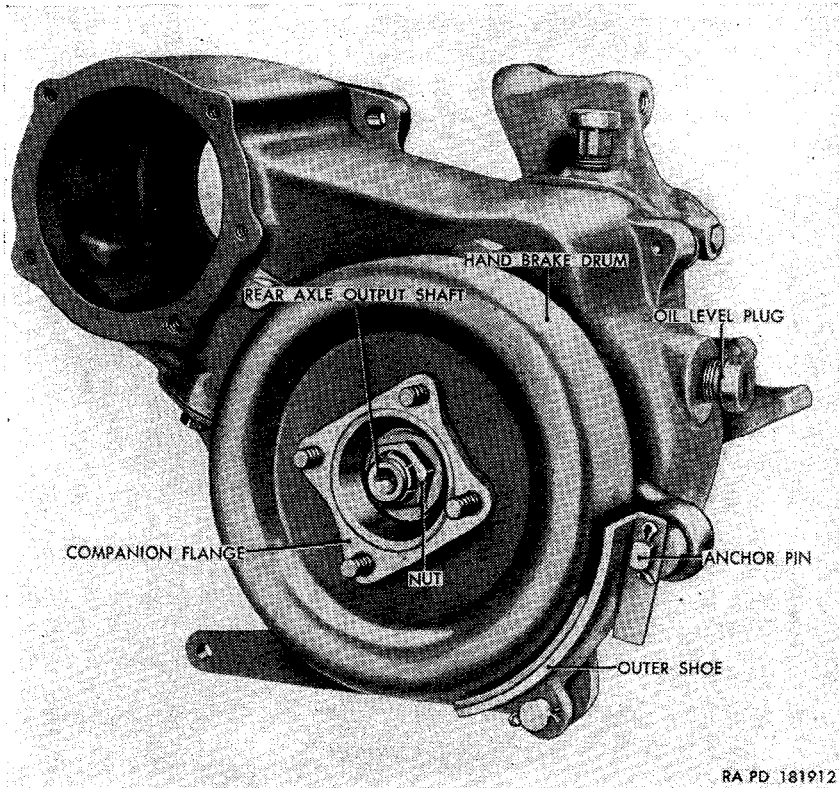

Figure 128. Transfer removed.
- h. Remove the nut (fig. 128) and washer securing the companion flange to the rear axle output shaft. Using a suitable puller, pull the
i. Remove the nut and lockwasher securing the anchor pin (fig. 128) to the transfer. Pull the anchor pin, with inner and outer shoes attached, from the transfer.
a. Insert the anchor pin (fig. 128), with inner and outer shoe attached, through the hole in the retainer of the transfer. Secure the pin to the retainer with one  $\frac{5}{8}$ -inch washer and nut.
b. Position the hand brake drum (fig. 128) on the companion flange, with the drum rim toward the flange hub. Secure the drum to the flange with four  $\frac{3}{8} \times 1\frac{1}{8}$  bolts with bolts in position shown in figure 128. Aline the flange splines with the rear axle output shaft splines. Install the flange on the shaft, making certain the inner and outer shoes are alined to mate with the brake drum rim. Using a soft mallet, tap the flange into position on the shaft. Secure the flange to the shaft with one  $\frac{3}{4}$ -inch washer and  $\frac{3}{4}$ -inch nut.